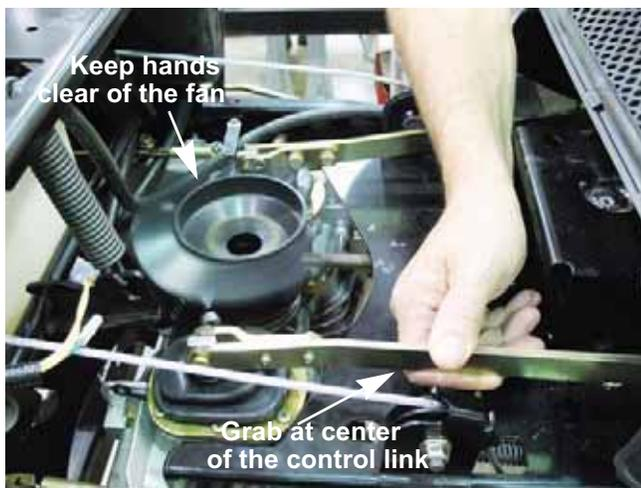

Figure 6B.20
**NOTE:** Holding the control link near the center will help keep the technicians hands clear of the fan and belt. See Figure 6B.20.